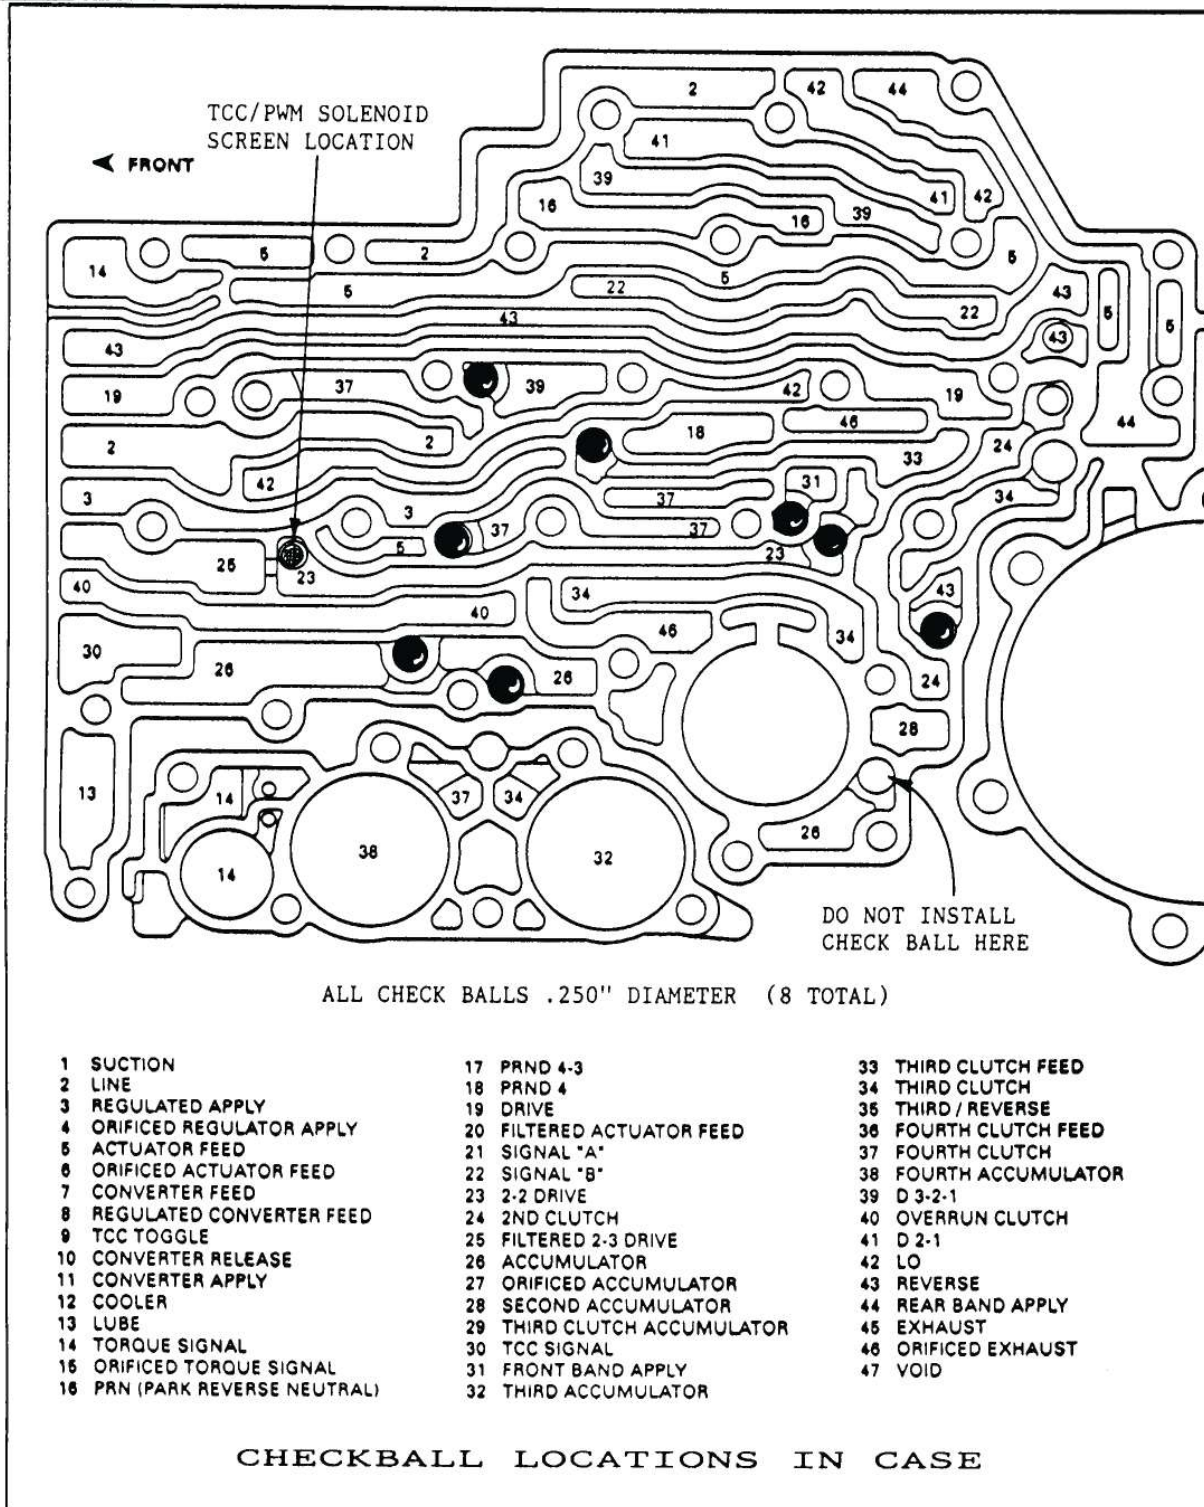

Figure 122
9. Install eight check balls in locations shown in Figure 122.